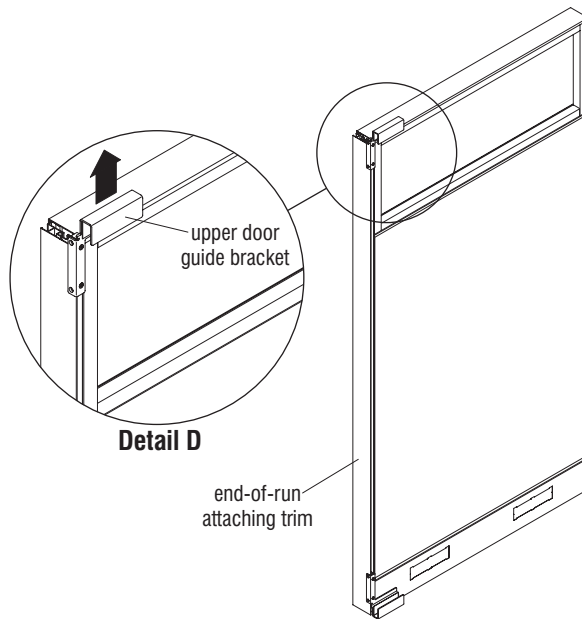

Figure 3
8. The door guide bracket installed to clamp block should be snug, but not tight. Slide the upper door guide bracket upward in the slot, to make room for installation of rolling door (Figure 3, Detail D).